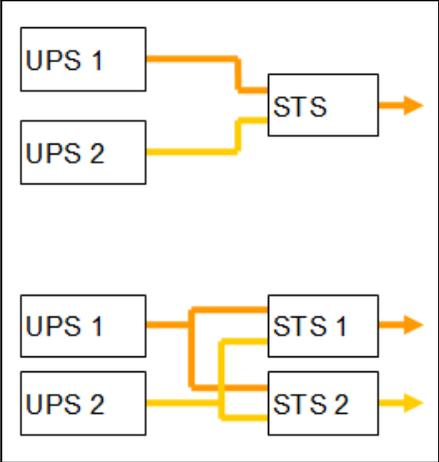

Figure 100. Static Transfer Switch
- **Static transfer switch for two components:** For STS mode, there are several cases with single STS or multiple STSs (see Figure 100).